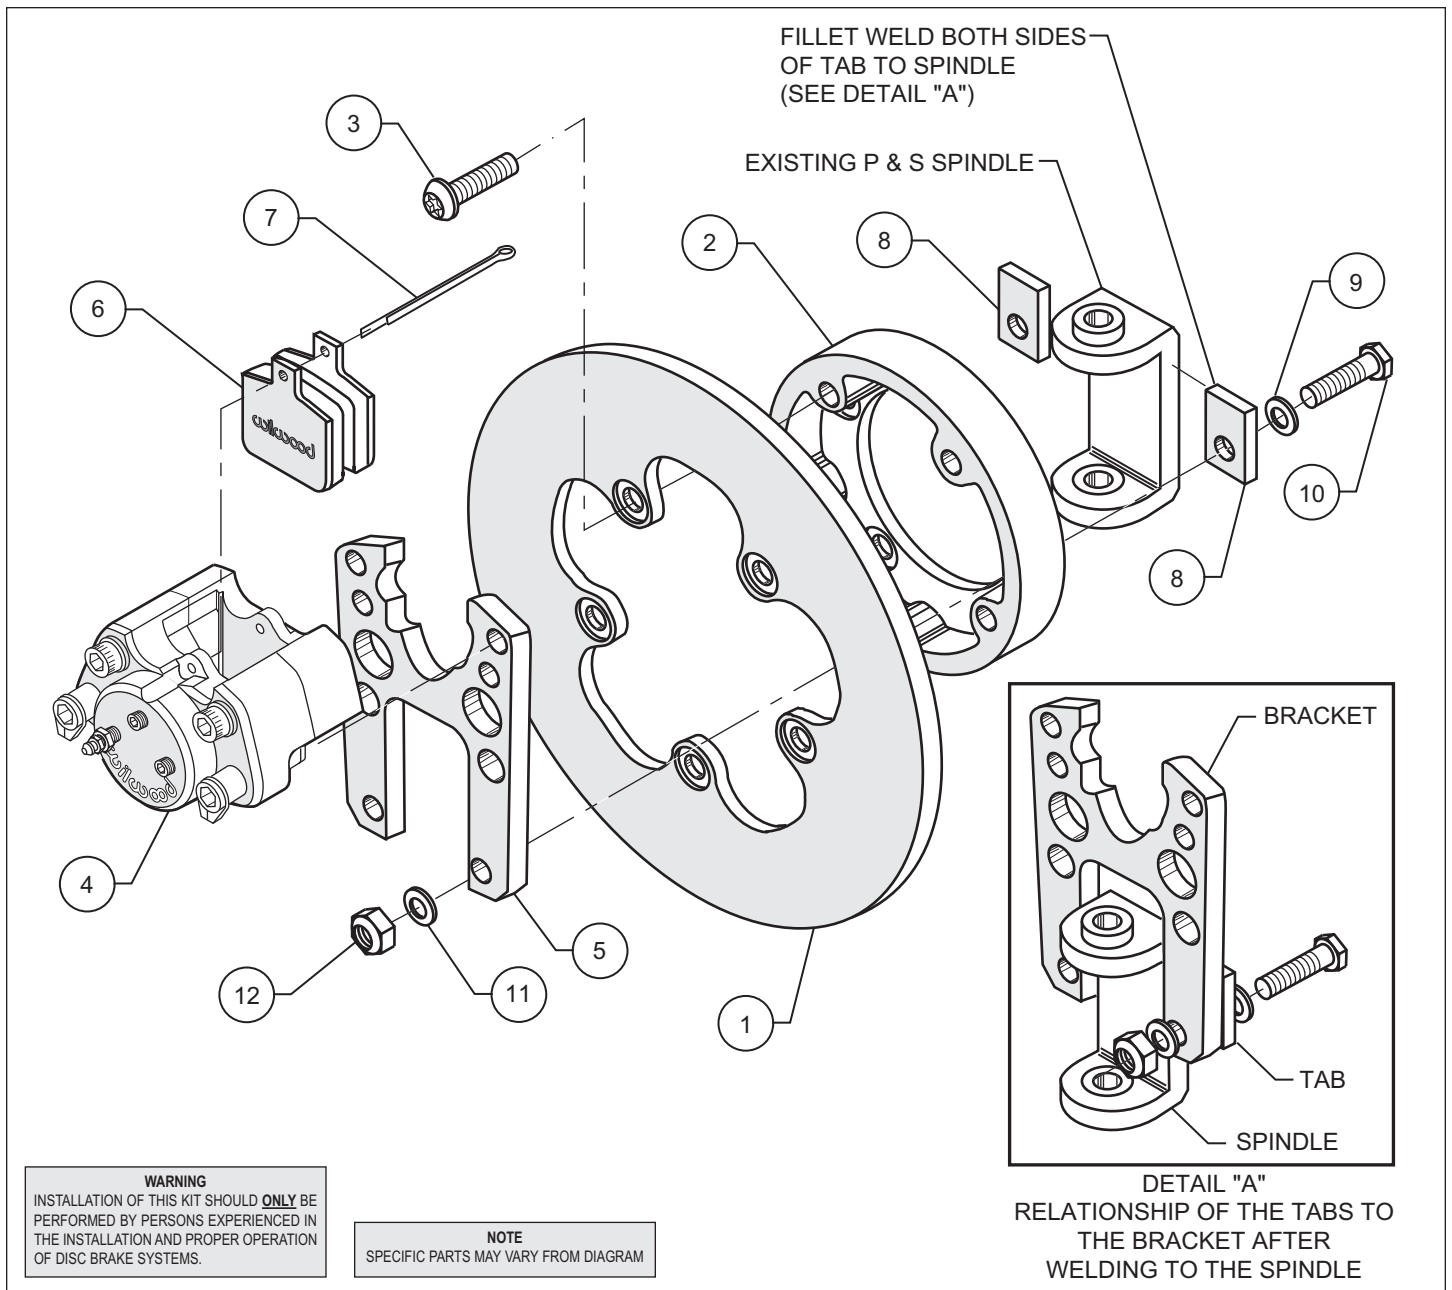

Figure 1. Typical Installation Configuration
- With the hole in the tab (8) in the downward position (see Figure 1), bolt the steel tabs (8) to the bracket (5) utilizing the washers (9) and bolts (10) slid through the hole on the hat side. Position another washer (11) over the bolts (10) and secure to the bracket (5) using nuts (12). Finger tighten only.
- NOTE:** Please reference the caution statement at the beginning of the assembly instructions. With the spindle in its correct upright position, position the caliper/bracket assembly (4 and 5) over the top of the rotor (1) at the 12 o'clock position. Align the steel tabs (8) onto the side of the spindle. While maintaining the location of the steel tabs (8) in relationship to the side of the spindle, raise the caliper assembly (4 and 5) so that the top of the brake pads (6) are level with the top of the rotor (1). At this point, mark the side of the spindle where the steel tabs (8) are located for welding, or spot weld each steel tab (8) to the spindle side to retain the caliper assembly (4 and 5) in its current position.
- Remove the caliper assembly (4 and 5) from the steel tabs (8) and rotor (1). Fillet weld the steel tabs (8) to the side of the spindle at the marked location.
- Position the caliper assembly (4 and 5) back on the rotor (1) at the 12 o'clock position and bolt the bracket (5) to the steel tabs (8) using the washers (9) and bolts (10) as performed earlier. Position another washer (11) over the bolts (10) and secure to the bracket using nuts (12). Torque bolts (10) to 30 ft-lb.